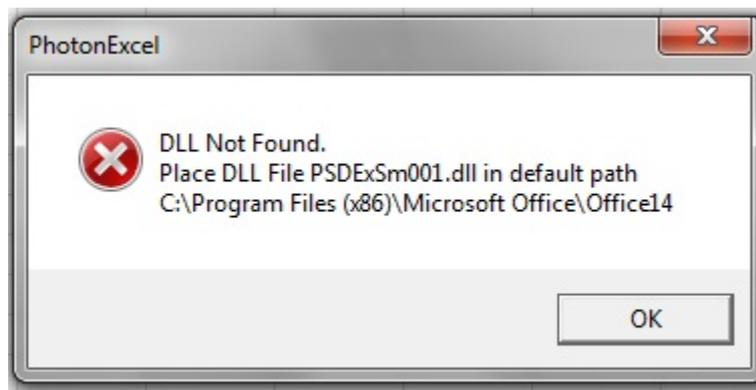

Figure 25 DLL Not Found Warning
5. The next step is to install the DLL. The DLL not found warning box also gives a location where the program is looking for the file. In figure 25 the location is C:\Program Files (x86)\Microsoft Office\Office14\. Place the DLL file into the location advised by the warning message.